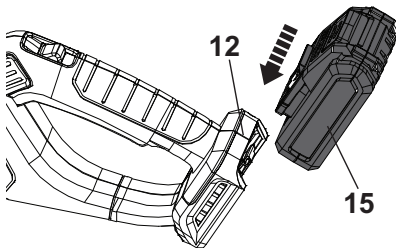

Fig. 3
1. Align the battery pack (15) with the sliding slots of the battery docking port (12) and slide the battery pack in to attach it. Ensure it clicks in place (Fig. 3).